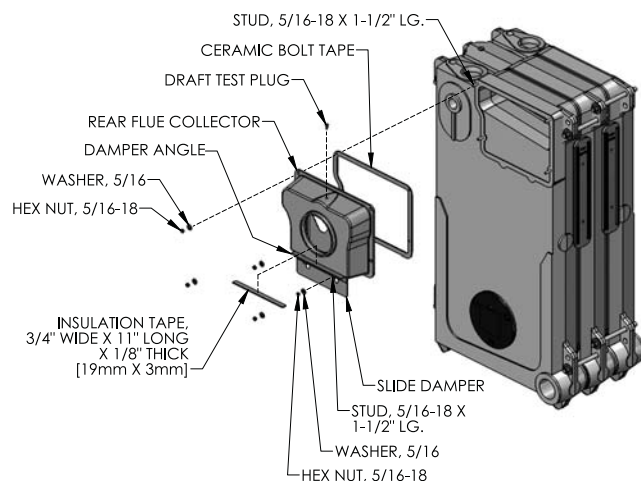

Figure 2.9: Rear Flue Collector Installation
5. Apply the 1/8" (3 mm) thick x 3/4" (19 mm) wide tape to the slide damper angle. See Figure 2.9.